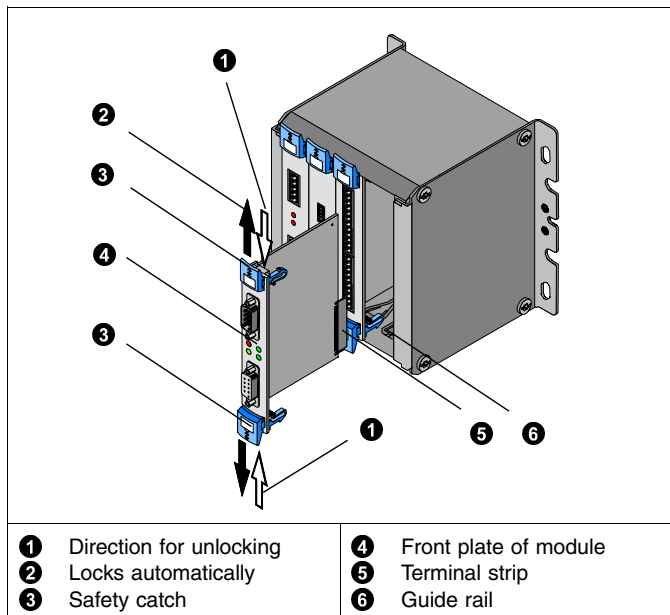

Fig. 2/1: Fitting the modules
4. Make sure that the plugs of the terminal strips are correctly aligned. Using light pressure, push the module in completely. The safety catches will then lock automatically (see Fig. 2/1).
3. Unlock both safety catches (see Fig. 2/1) and carefully remove the module.